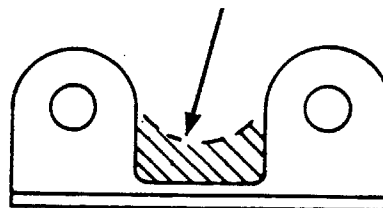

FIG. 2
15. **100LS ONLY:** Modify air filter bracket as shown in Fig. 2 to provide clearance required to fit the bracket to the Weber carburetor.